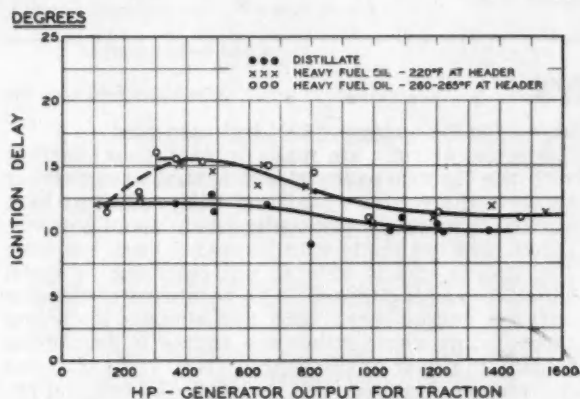

Fig. 5—Relation between ignition delay and generator output for traction (4-stroke engine).
4. IGNITION DELAY, measured electronically, while using the ASTM No. 6 fuel, was greater throughout the entire load range than while using ASTM No. 2 fuel. The maximum difference in ignition delay occurred at approximately 25% load factor (Fig. 5).